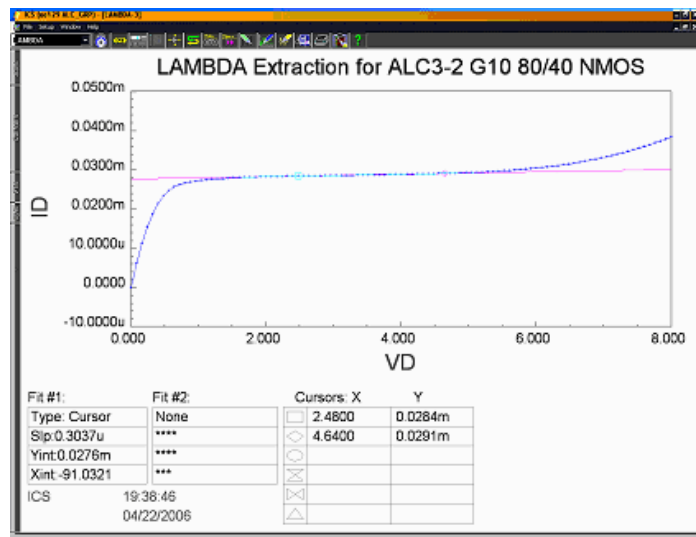

Figure 67: ICS Graph (color has already been inverted)
1. Figure 67 is a typical ICS graph we want to capture.
- Following is an example of choosing the title and part of the graph of Figure 67.